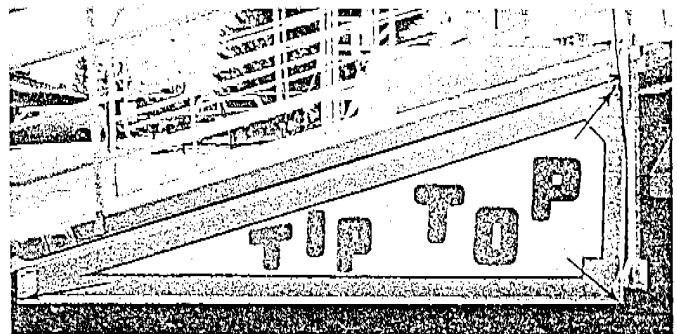

Fig. 42
- (1) Fit the holes in the top of a bally over the pins that extend from the side of the gooseneck frame. Snap Key in Place. (Fig. 42)
- (2) Repeat on the other side.